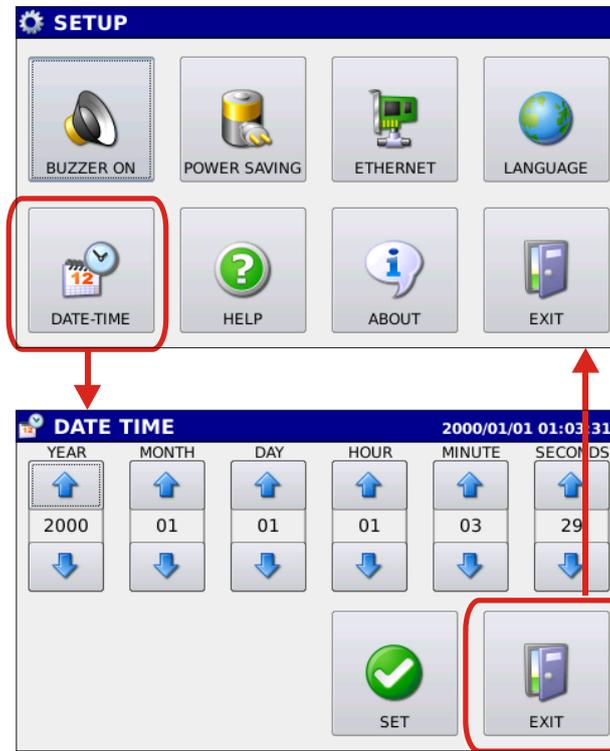

Fig. 6.9: Date/Time setting window
6.5  **Setting date and time.** By pressing the Date-time button it is possible to access the window for date/time setting (figure 6.9).